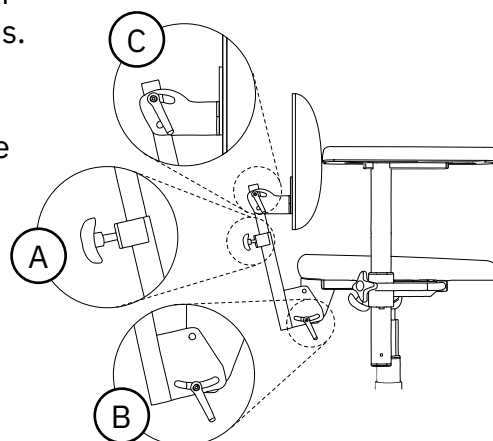

Figure 5.8. ErgoMedic backrest.
ErgoMedic is a lightly cupped backrest. The backrest is available in sizes from 330 x 160 mm. The Standard X-ray backrest mechanism's backrest has adjustable height (A), adjustable backrest mechanism angle (B) and adjustable backrest angle (C) (see Figure 5.8). The back recliner can be adjusted in the range of 15° forward to 30° backwards.